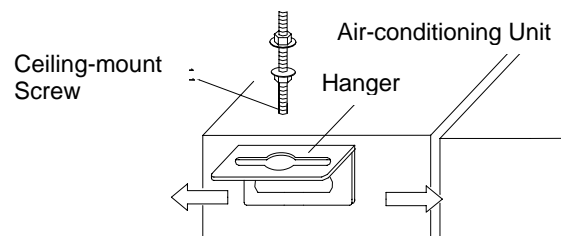

Fig. 33
- (2) Install the hanger onto the indoor unit as Figure 33 shows.